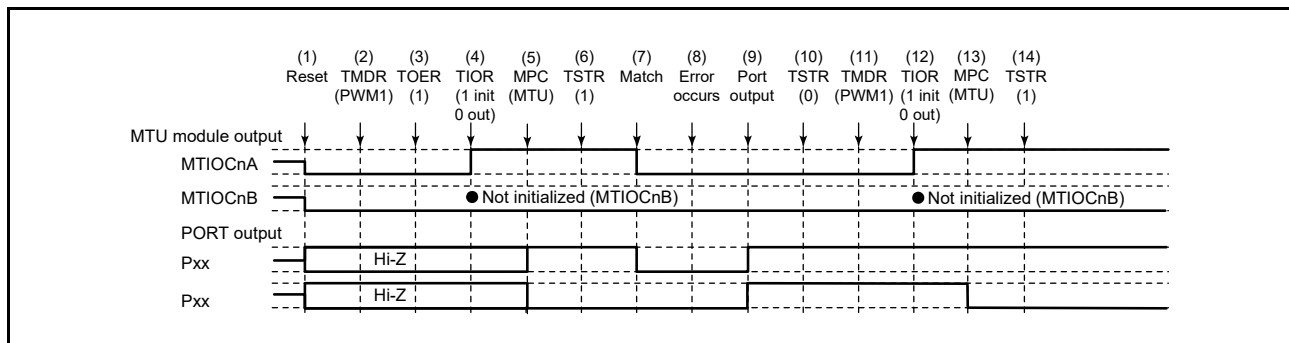

**Figure 24.160 Error Occurrence in PWM Mode 1, Recovery in Normal Mode**
Figure 24.160 shows a case in which an error occurs in PWM mode 1 and operation is restarted in normal mode after re-setting.
(1) to (10) are the same as in Figure 24.160.
(11) This step is not necessary when restarting in PWM mode 1.
(11) Set PWM mode 2.
(12) Initialize the pins with the TIOR register. (In PWM mode 2, a waveform is not output to the pin that corresponds to the TGR register used as a period register. To output a specified level, make necessary settings for general output ports in the port direction registers (PDR) and port output data registers (PODR) of the I/O ports.)
(11) Set the phase counting mode.
(12) Initialize the pins with the TIOR register.
(11) Set normal mode to initialize the normal mode waveform generation block.
(12) Initialize the PWM mode 1 waveform generation block with the TIOR register.
(13) Disable operation of the PWM mode 1 waveform generation block with the TIOR register.
(14) Disable output in MTU3 and MTU4 (MTU6 and MTU7) with the TOERA (TOERB) register.
(15) Select the complementary PWM output level and enable or disable cyclic output with registers TOCR1A and TOCR2A (TSTRB).
(16) Set complementary PWM mode.